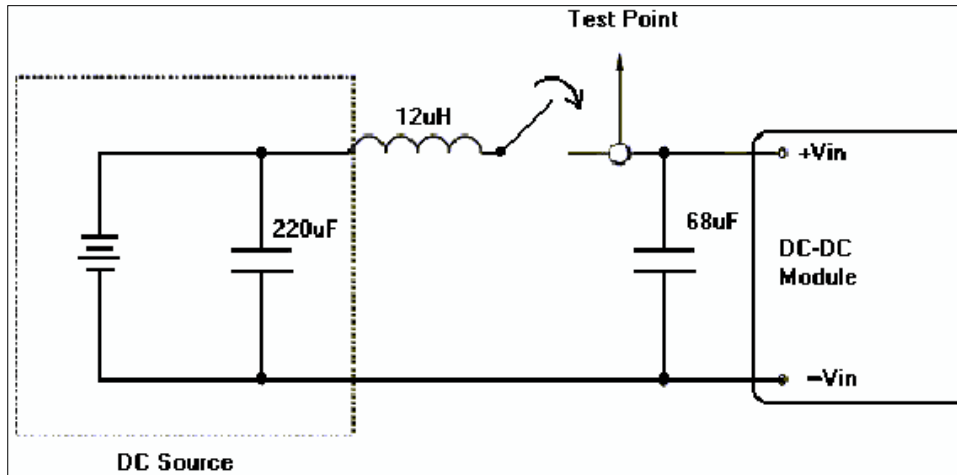

Figure 1. Measure input reflected-ripple current with a simulated source inductance of 12 μH .
2. External input capacitance required. See Figure 1 for the Input Reflected-Ripple Current Test Setup.